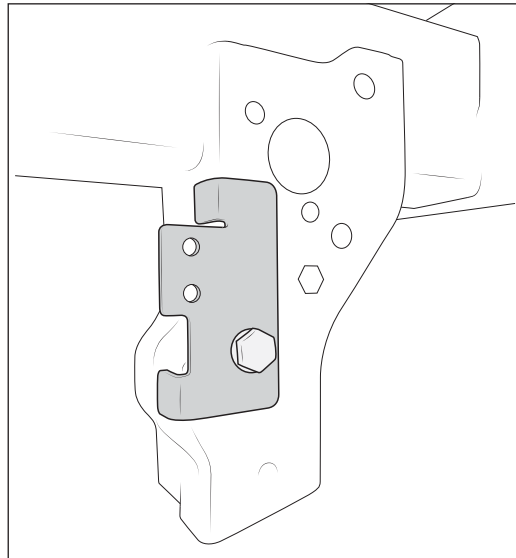

Figure 7
8. Install reservoir bracket to riv-nut in orientation shown (fig. 7). Tighten to 30 ft-lb.